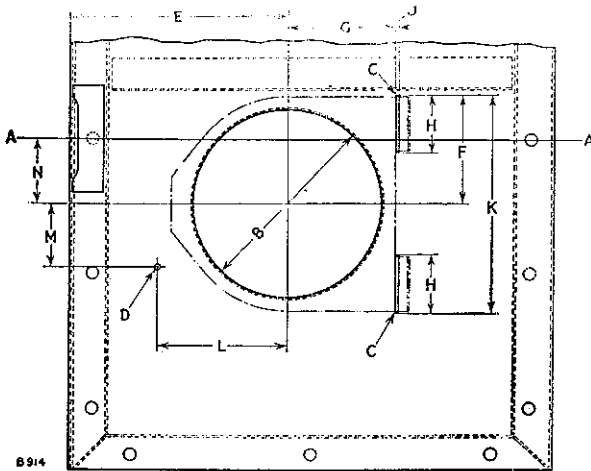

Fig. T-3—
7. Mark out and cut one hole 7 in. (177,8 mm) diameter and two slots  $\frac{1}{8}$  in. (3,17 mm) wide and  $2\frac{1}{16}$  in. (52,38 mm) long, and drill one hole .204 in. (5,18 mm) diameter in the panel as illustrated in Fig. T-3.